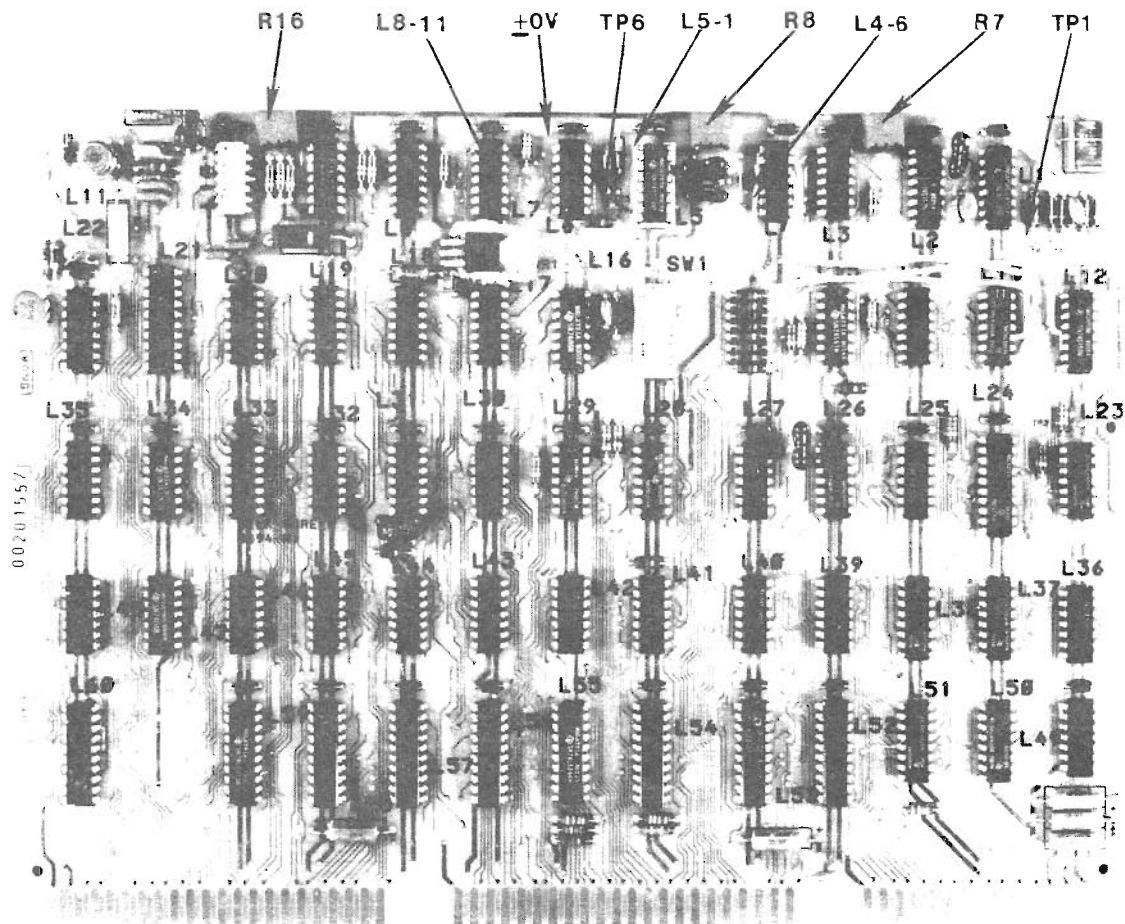

FIGURE 1 WL NO. 210-8694 TEST POINTS AND POTENTIOMETERS
3. On the component side of the motherboard, cut the etch that joins connector 2 pin 8 of the 210-7695 board slot to the disk and diskette drive fingerboard connectors 1 and 2 pins 2 (ref: FIGURE 1).
B. ADJUSTMENT PROCEDURE (ref: FIGURE 1)